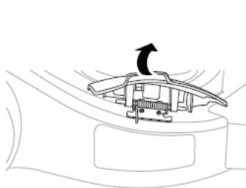

Fig.9A
3. Lift side flap for side discharge. (Fig.9A)